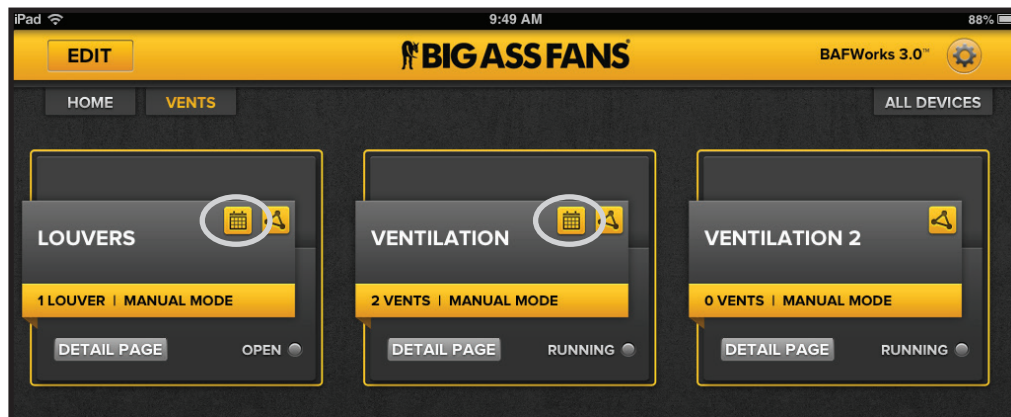

Figure 5–Calendar icons on the louver and vent group icons
12. Observe the louver or vent group icon on the ventilation groups screen. Note that a calendar icon appears in the top right corner of the group icon, indicating that scheduling is enabled for the group (Figure 5).